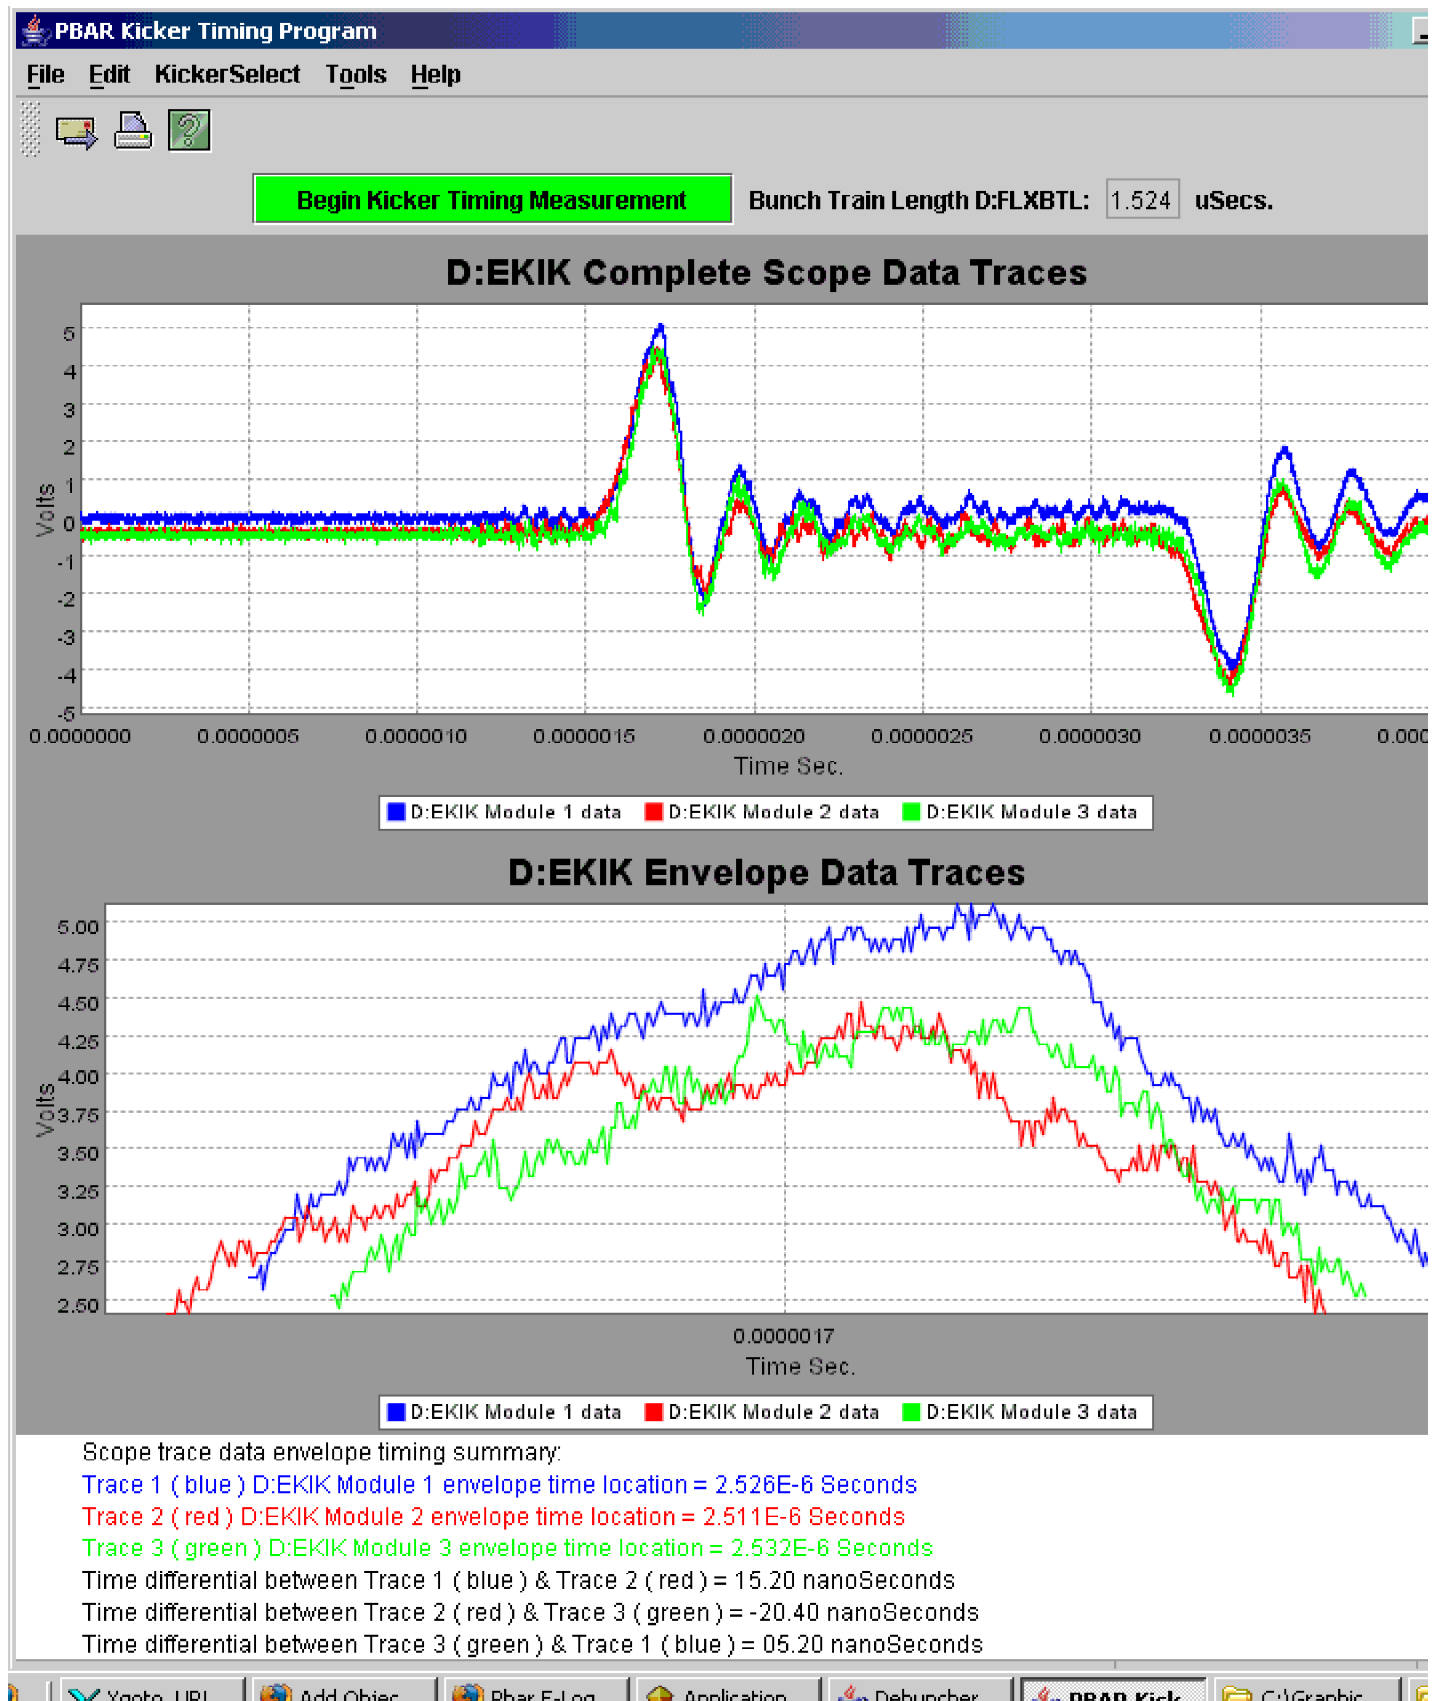

Figure 30:
8.  Examine the Pbar Kicker Timing application (see Figure 30) to see if the kicker trace alignment is converging. Click on the green box that is labeled "Begin Kicker Timing Measurement."